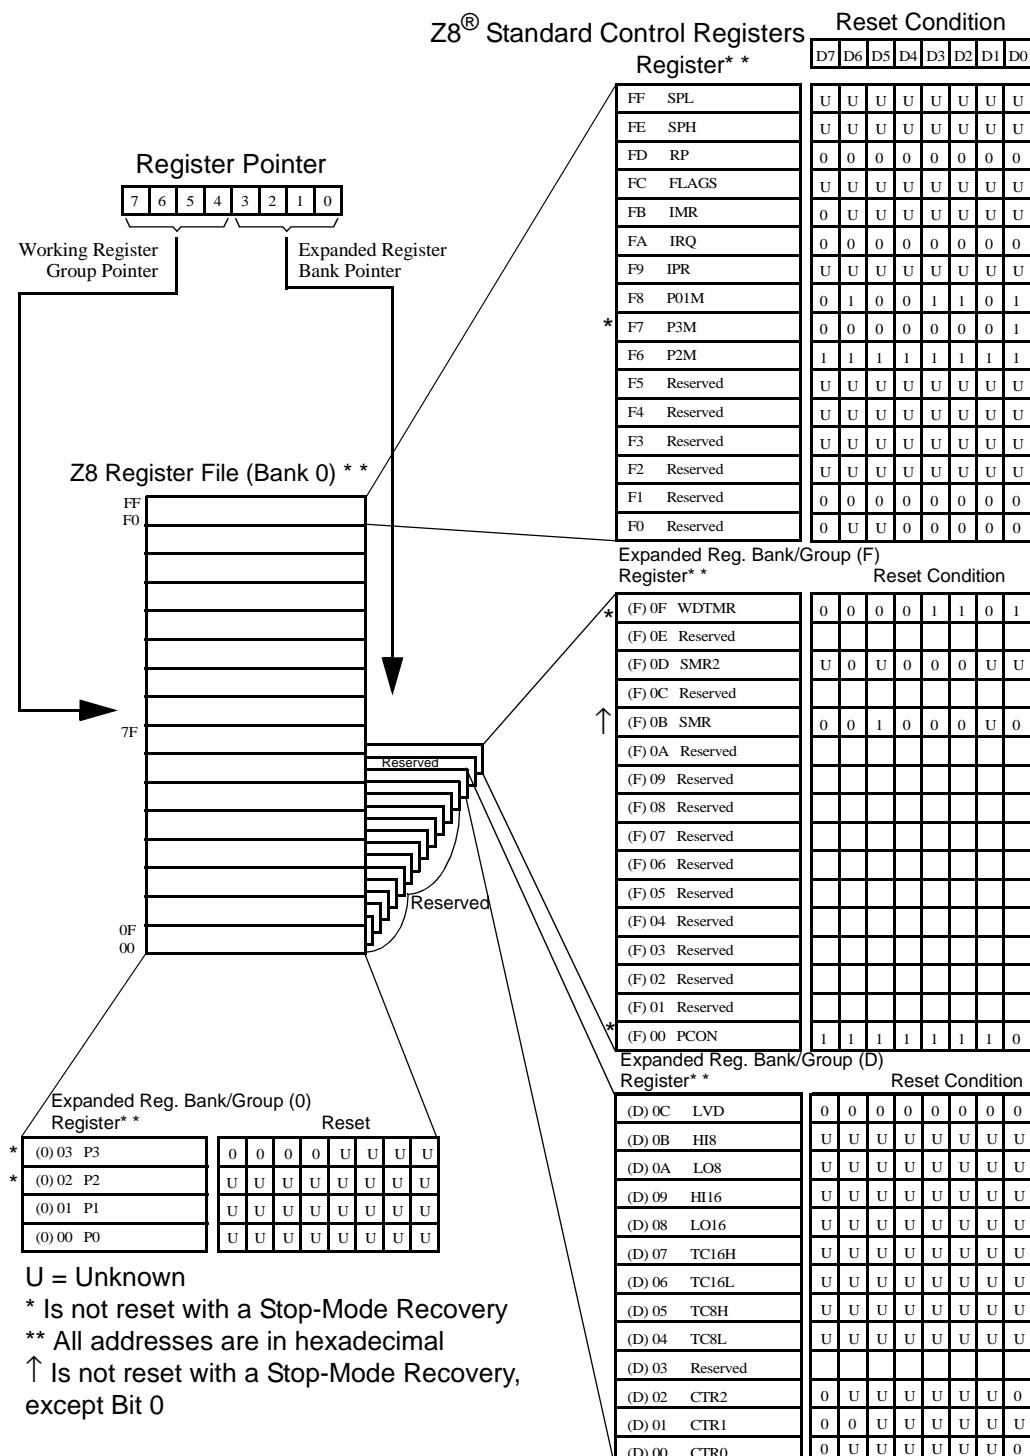

Figure 16. Expanded Register File Architecture
- ▶ **Note:** An expanded register bank is also referred to as an expanded register group (see Figure 16).
Example: Z86D73: (See Figure 16 on page 29)